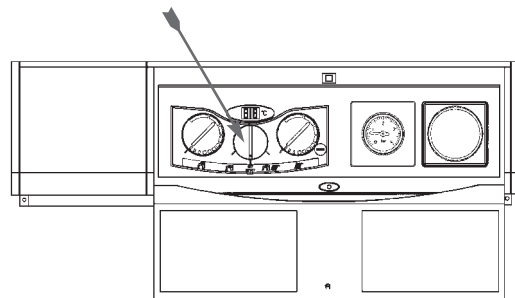

Fig. 4
**3.1** With the boiler mode selector switch turned to  (fig. 4), ensure either internal timer or external controls such as time clock and/or room thermostat are calling for heat. The boiler will now go through an ignition sequence and the burner will light.